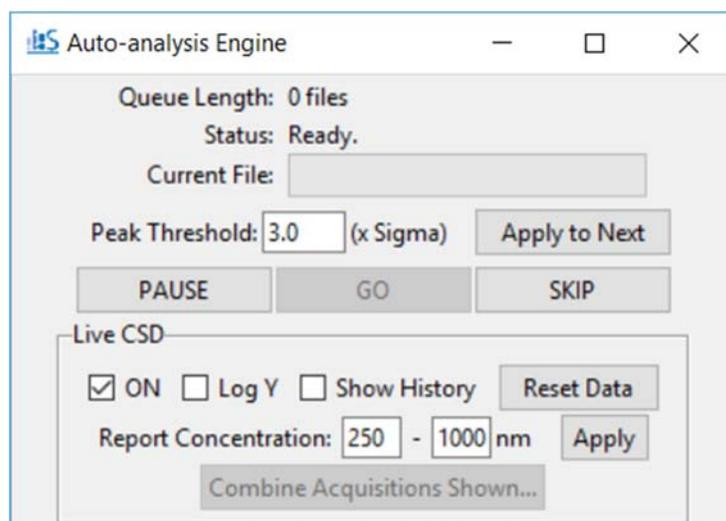

Figure 12. Auto-analysis Engine Interface.
- Display Options (see Figure 12. Auto-analysis Engine Interface):